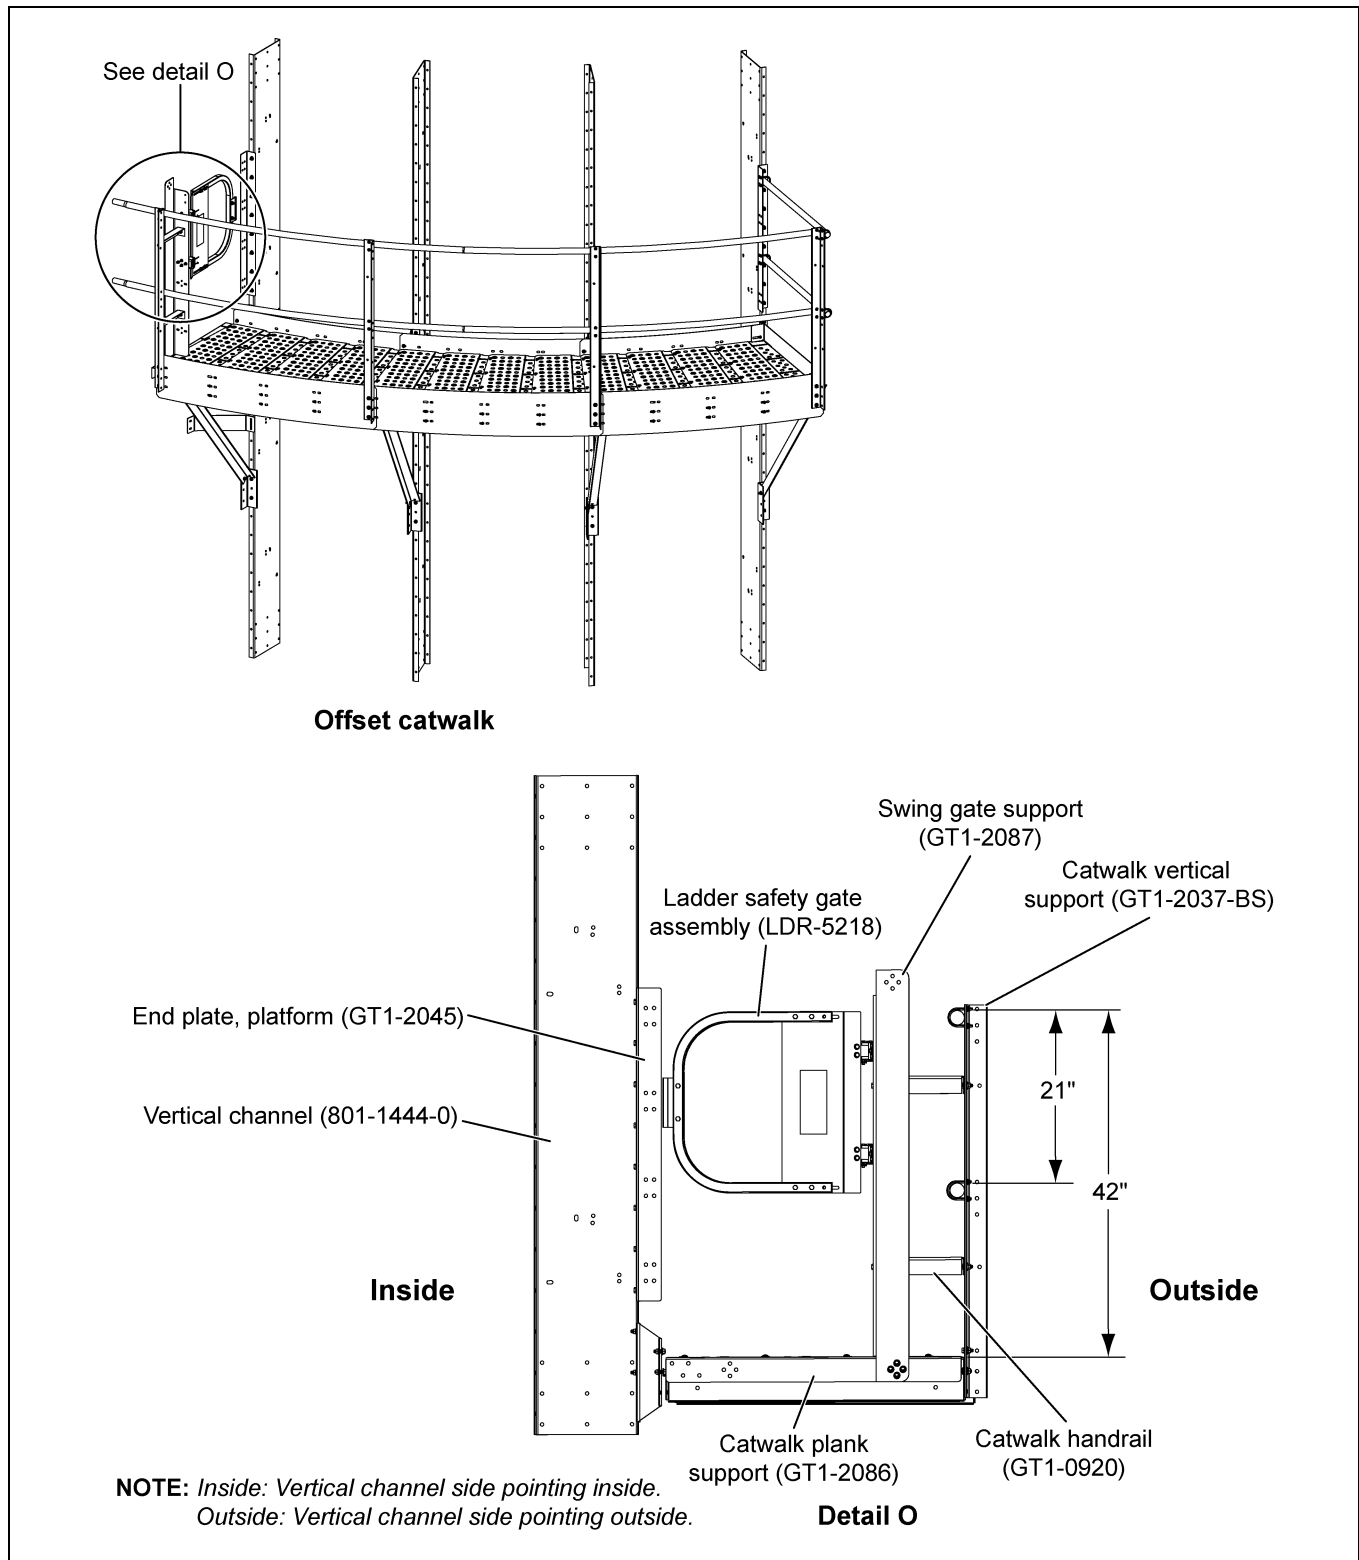
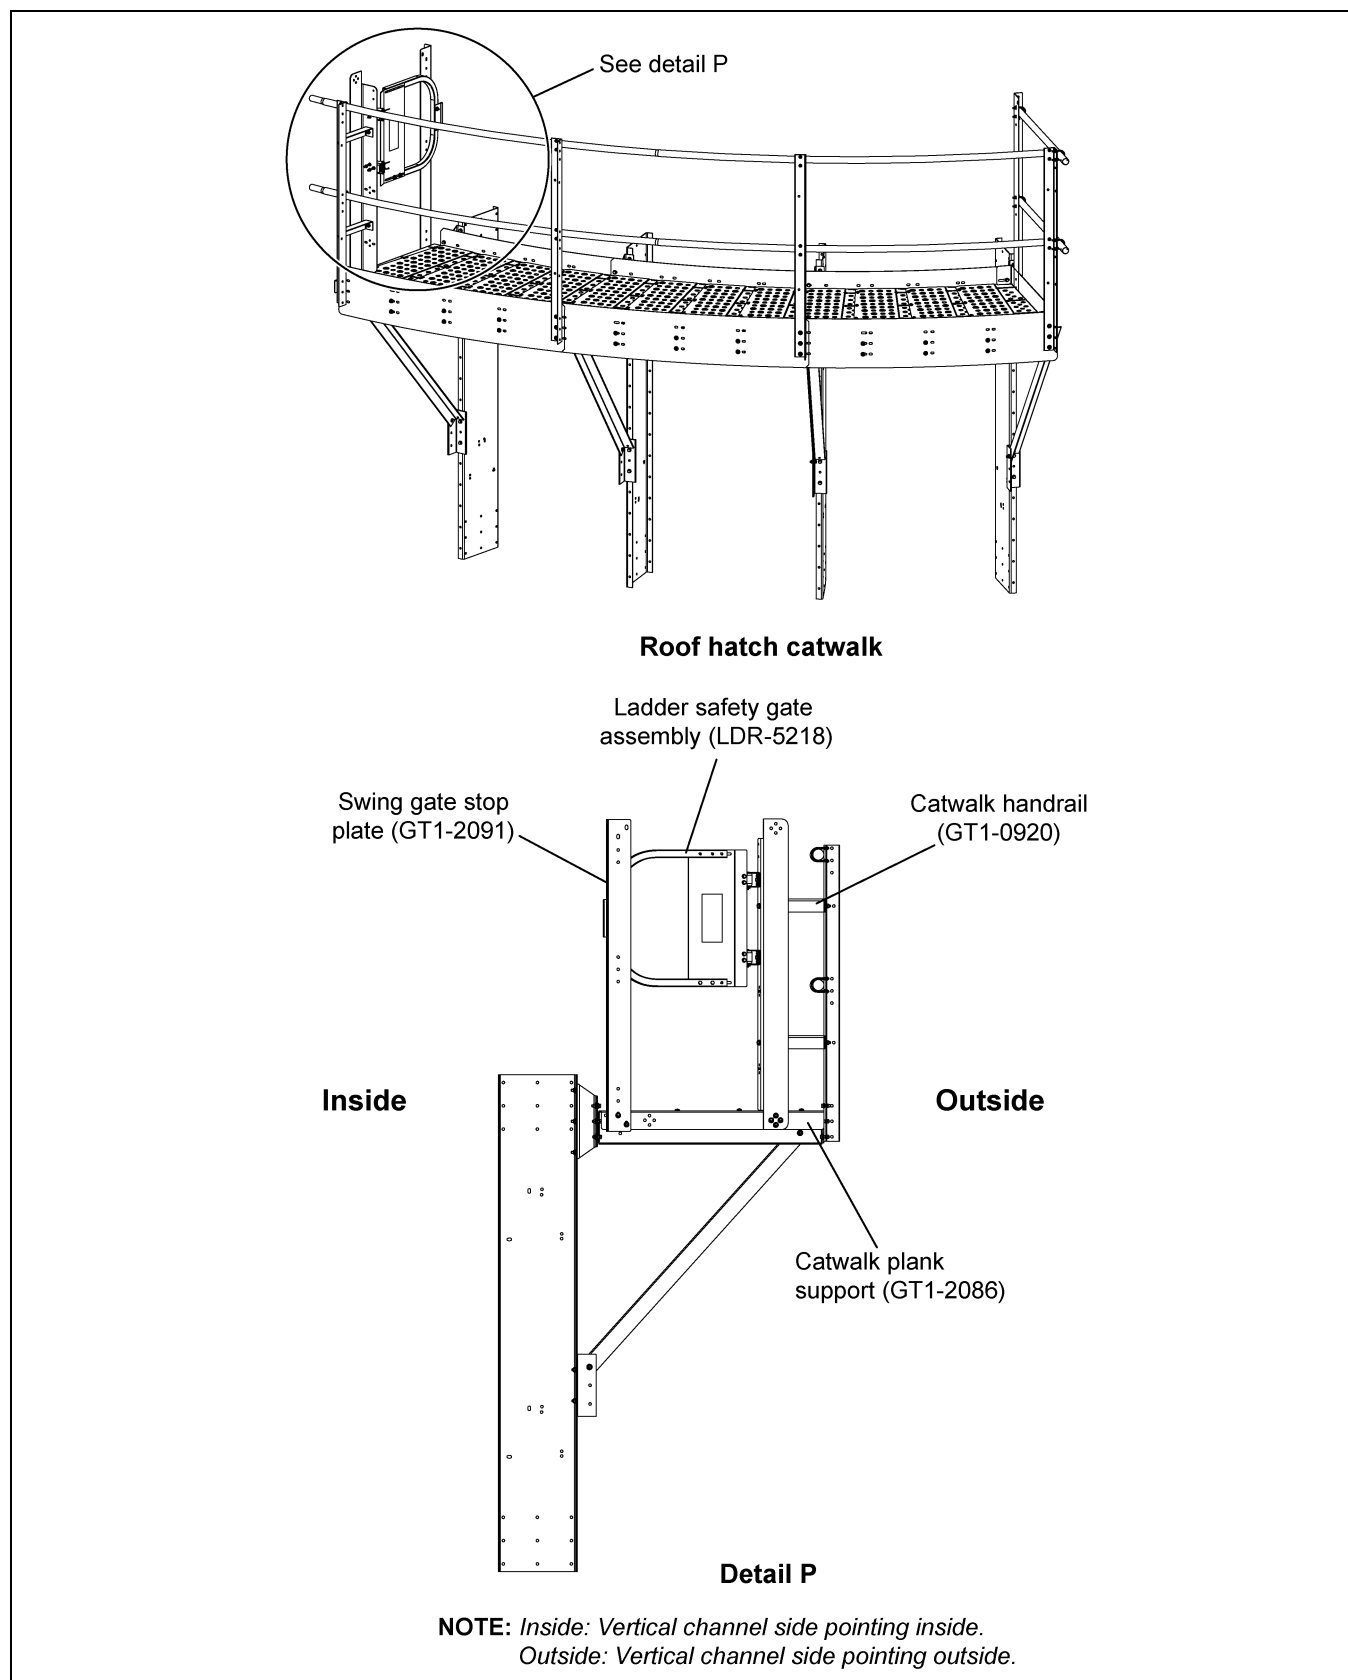

Figure 6Y Offset Ladder Safety Gate Assembly to Swing Gate Support (GT1-2087)
Figure 6Z Roof Hatch Ladder Safety Gate Assembly to Swing Gate Stop Plate (GT1-2091)
3. Install the ladder safety gate assembly (LDR-5218) to the swing gate support (GT1-2087) using 3/8"-16 x 1" JS grade 8 or grade 8.2 bolts (S-7485) and 3/8"-16 ZN grade 5 nuts (S-968). The distance between the plank and handrail is 42". (See Figure 6Y below and Figure 6Z on Page 66.)